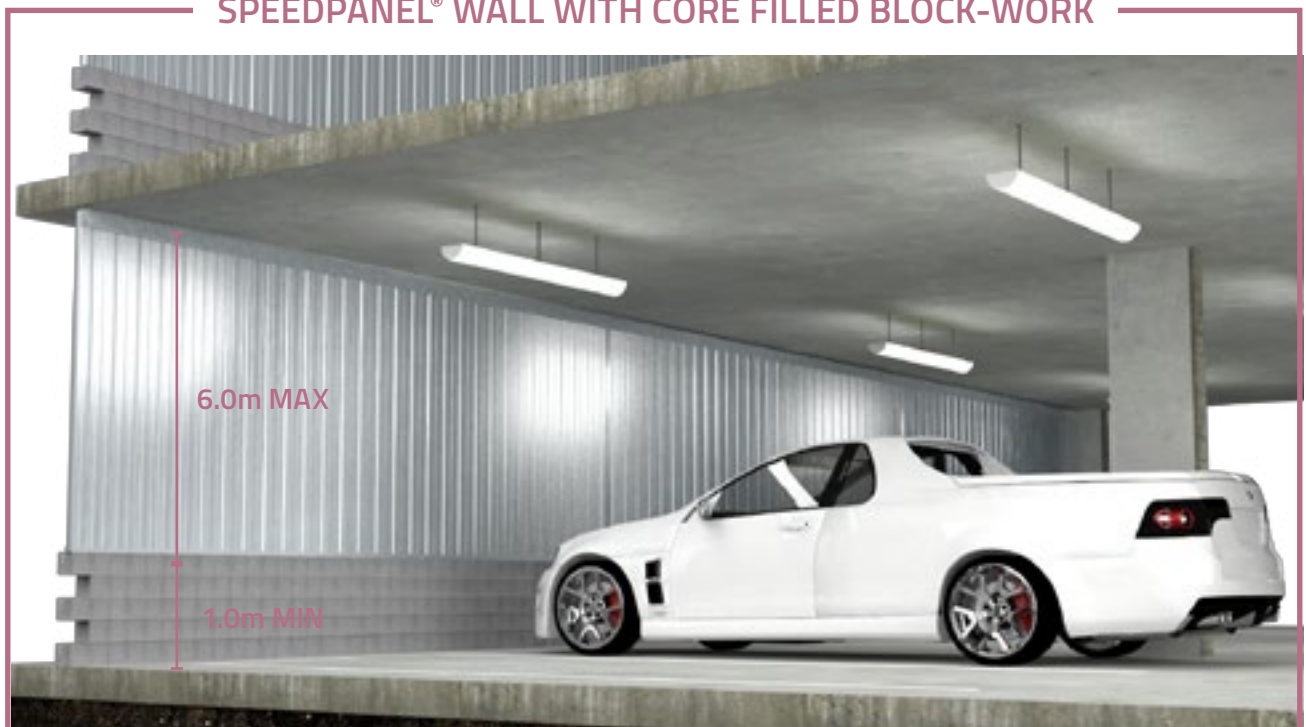

FIGURE 221
- Speedpanel® installed over 1.0m height block-work without wheel stops (Figure 221)